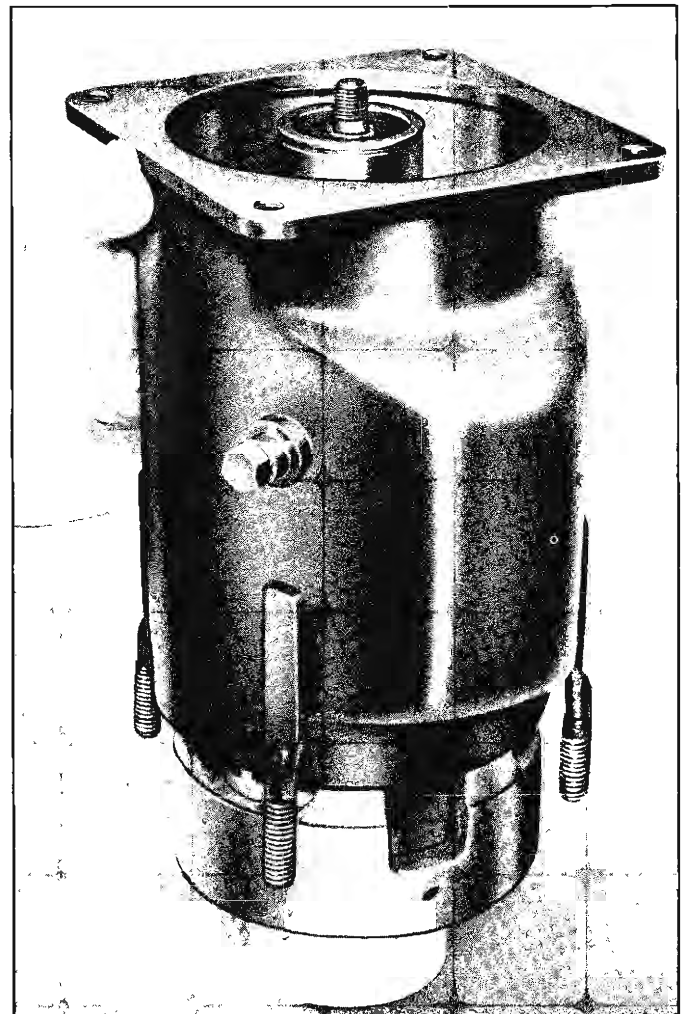

Fig. 38—Installing Shell over Internal Mechanism
10. Locate the oil intake tube hole in the rear discharge plate. Line up the oil sump with this hole location and slide the shell down over the mechanism while supporting the mechanism on J-9521 (fig. 38).